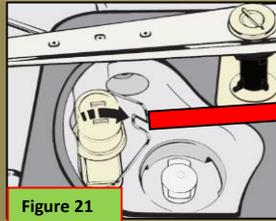

Figure 21
1. With the filter assembly removed, remove the non-return valve; see Figure 21.
2. Inspect the non-return valve for any debris or damage to the valve gasket; see Figure 21.